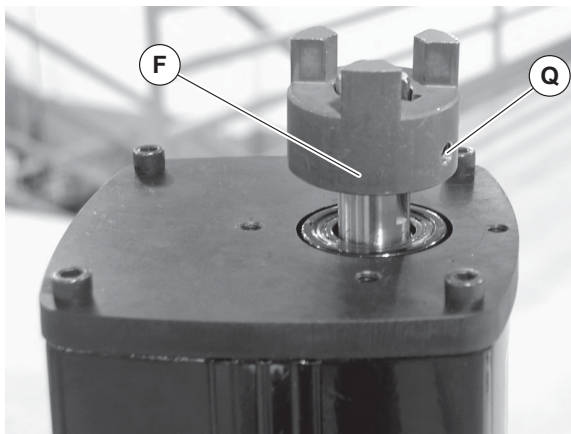

Figure 10
6. Loosen set screw (Figure 10, item Q) and remove 3 jaw coupling (F).